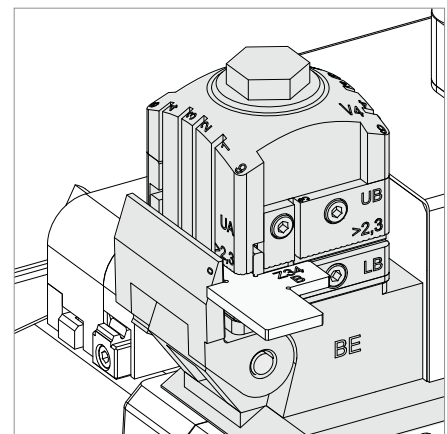

Fig. 131
- 3) Fit the template Z34 (side B upwards) (Fig. 131).